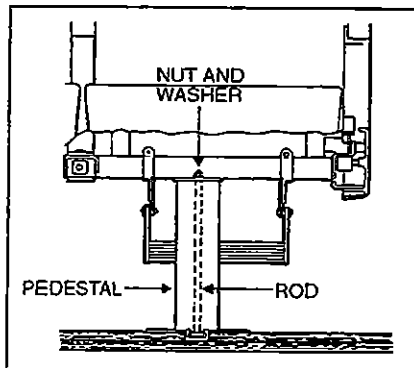

Figure 49
- Remove 2 nuts and washers holding seat frame to pedestal rods. See figure 49.